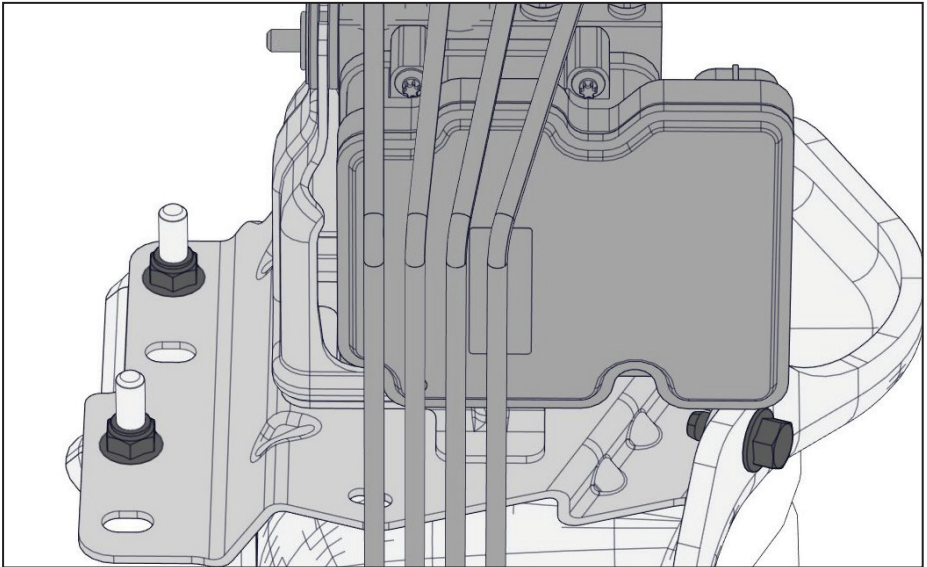

Figure 15 — Relocating the HCU
- ☐ Remove the bolt and (x2) nuts securing the HCU base bracket to the shock tower and set them aside. Remove the HCU base bracket (Figure 15).